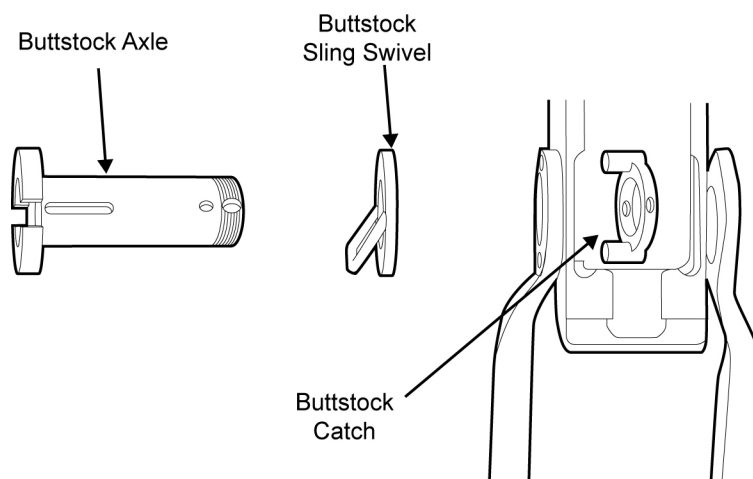

Figure 45. Installing the Buttstock Sling Swivel, Buttstock Axle, and Buttstock Catch.
- b. From the left side of the receiver, thread the buttstock axle through the buttstock sling swivel, left buttstock arm, left side of the receiver, buttstock catch (inside the receiver with the arms facing left), right side of the receiver, and right buttstock arm. Refer to Figure 45.